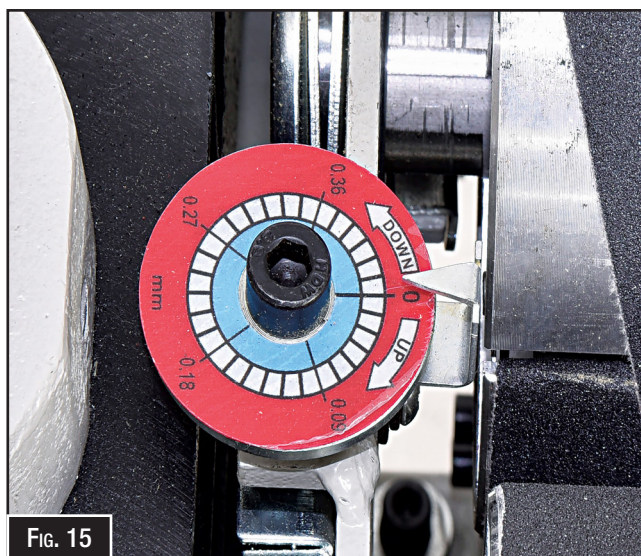

Fig. 15
2. Locate the drum height adjustment screw as shown in Fig. 15.